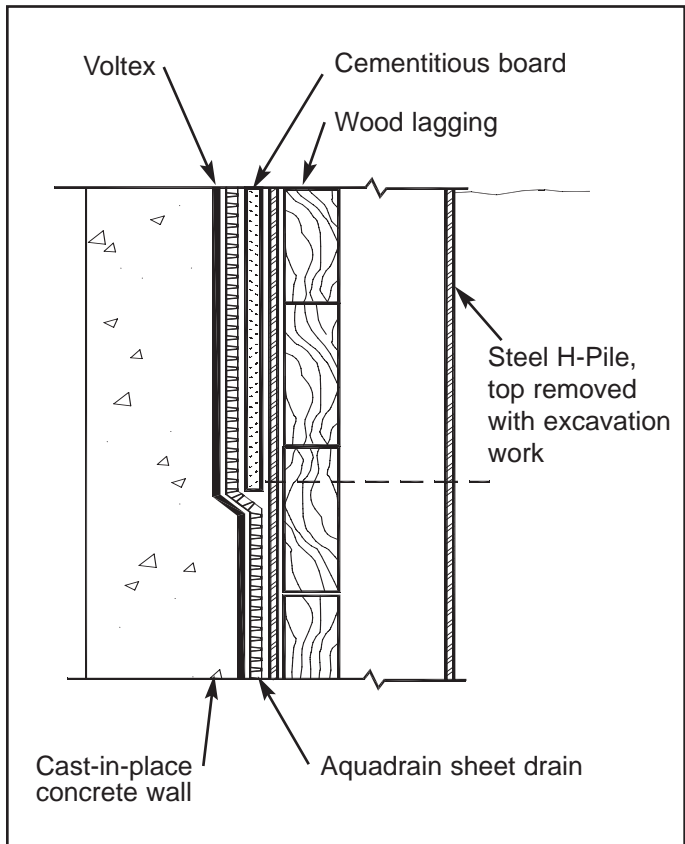

Figure 2.13 - WALL EXCAVATION AT GRADE
**Cementitious Board:** Prior to installing Voltex/Voltex DS to finished grade, install 1/2" (12 mm) thick cementitious wall board centered over steel soldier pile from finished grade elevation to specified depth that the top of steel soldier pile and wood lagging will be removed (Figure 2.13).